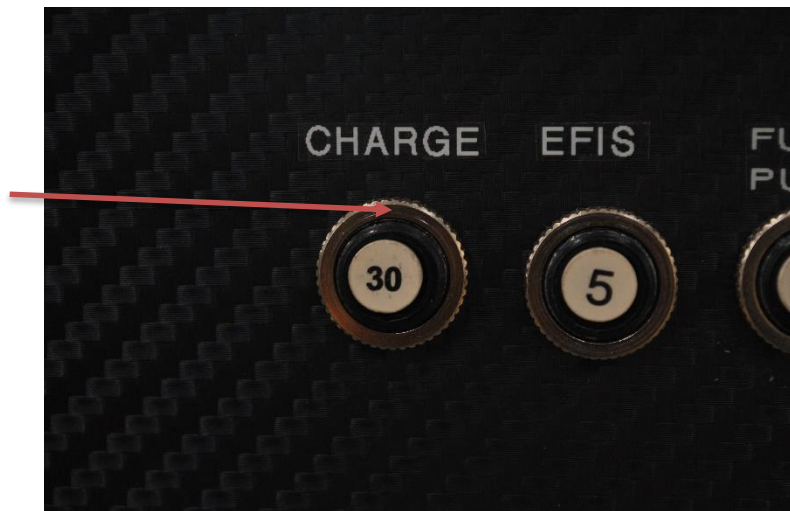

Figure 4
14. With the battery still disconnected, loosen the ring nut that holds the circuit breaker in place on the instrument panel. Refer to figure 4.